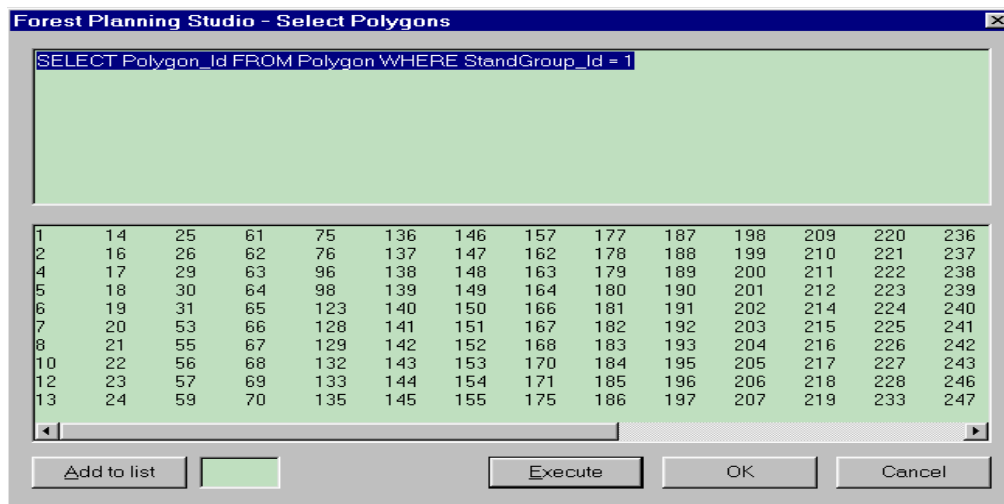

Figure 56: Polygons queried with an SQL code
11.2.3 From drop-down menu select *Partial Cut4* (figure 56).